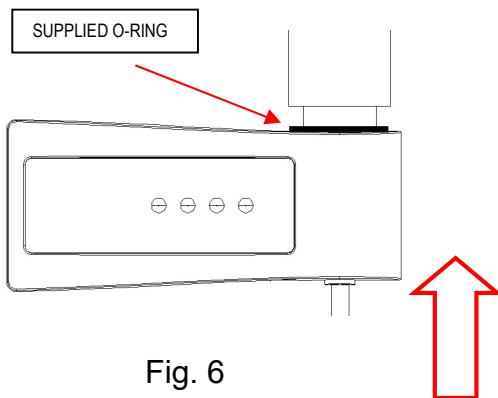

Fig. 6
4. Fit controller to the connection on the electric heating element (Fig. 6), pressing the controller until it is fully inserted and the supplied O- RING fully compressed.
Be sure to keep the supplied O- RING fully compressed during the operation (Fig.6).